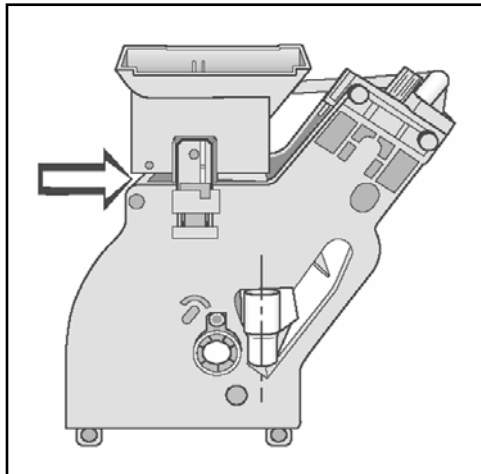

Figure 5-25: Brew Unit in Reset Position
4. The “Home” position (Figure 5-25) after resetting the Brew Unit. The Brew Unit can now be installed into the appliance.